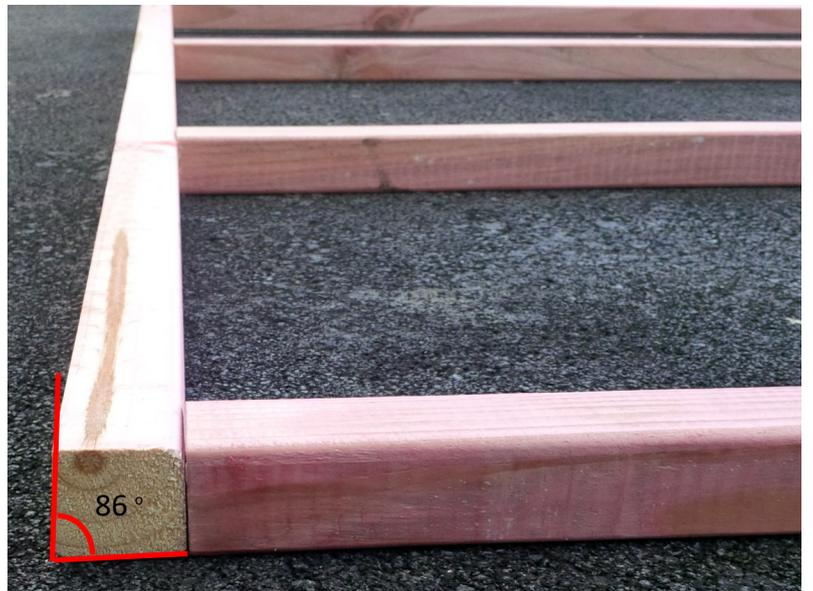

Fig. 2
Step 3: Lay out Back wall framing, ensuring top of top plate is sloping towards the front as shown in fig.2